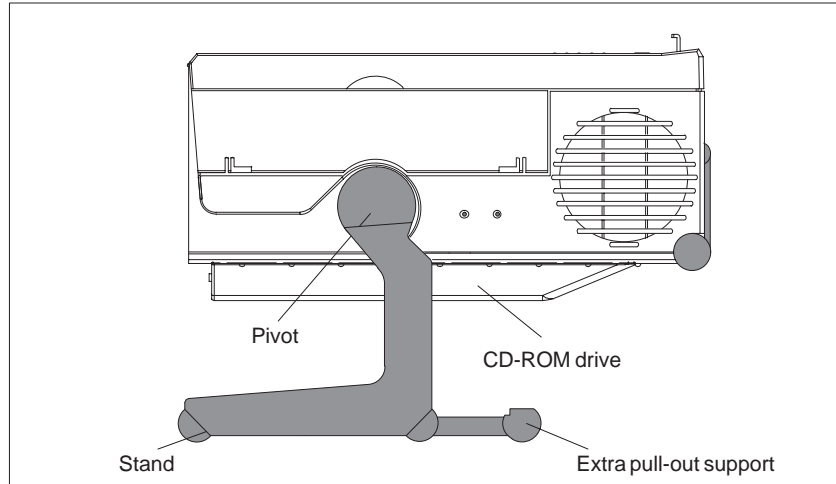

Figure 2-1 Horizontal Operating Position without Keyboard
2. Pull the extra support (Figure 2-1) out of the rear of the stand.
You can remove the keyboard if you are operating the unit in the position shown in Fig. 2-1.